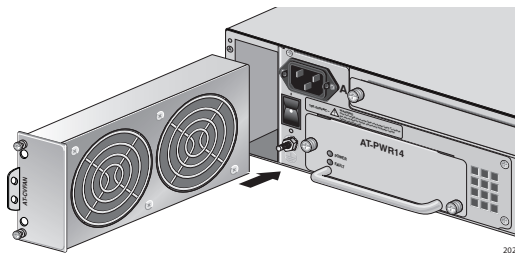

Figure 62. Inserting an AT-CVFAN Module into Fan Slot A
- a. To install a new fan in slot A, turn the fan so that the handle is on the left and slide the new fan module into the fan slot, as shown in Figure 62.